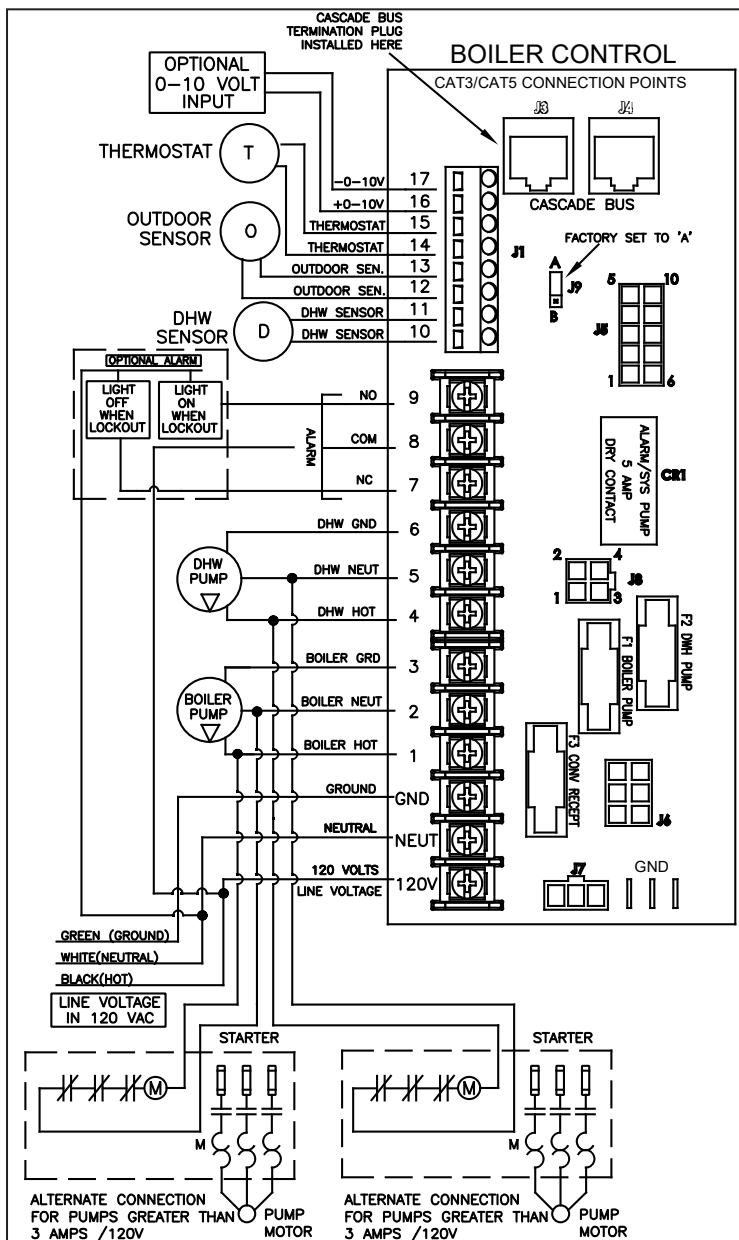

Figure 29 - Control Wiring
NOTE: A termination plug is included in the CAT 3 / CAT 5 Bus Connection Point, labeled J3 in Figure 29. DO NOT REMOVE THIS PLUG! Doing so will affect boiler operation and void warranty.
1. Connect the incoming power wiring to the line voltage terminal strip in the electrical junction box at terminals 120V, Neutral, Ground (shown in Figure 29).
3. Connect the boiler pump as shown in Figure 29 to the terminals marked 1 – (HOT), 2 – (NEUT), and 3 – (GND). The connections shown are suitable for a maximum continuous pump draw of 3 amps at 120 volts. If the pump requires more current or voltage than the 120 volts supplied, an external motor starter or contactor will be required.
The control includes a dry contact alarm output. This is an SPDT circuit, rated at 5 amps at 120 volts. This contact can be used to activate an alarm light or bell or notify a building management system if the boiler goes into a lockout condition. The circuit between the ALARM COM and NC terminals is closed during normal operation and the circuit between ALARM COM and NO is open during normal operation. The connections depicted in Figure 29 show two 120 volt lights connected to the alarm terminals. One light will be on when the boiler is in normal mode and the other light will be on when the boiler is in lockout mode.
1. Connect the room thermostat to the terminals marked THERMOSTAT in the electrical junction box (see Figures 29 and 32). Alternately, any dry contact closure across these terminals will cause the boiler to run. Take caution to ensure neither of the terminals becomes connected to ground.
2. Connect the indirect sensor (7250P-325) to the terminals marked DHW SENSOR (shown in Figures 29 and 32) in the electrical junction box.
2. Connect a building management system or other auxiliary control signal to the terminals marked 16, 0-10 VOLT + and 17, 0-10 VOLT - in the electrical junction box (shown in Figure 29). Caution should be used to ensure that the 0-10 VOLT + connection does not become connected to ground.